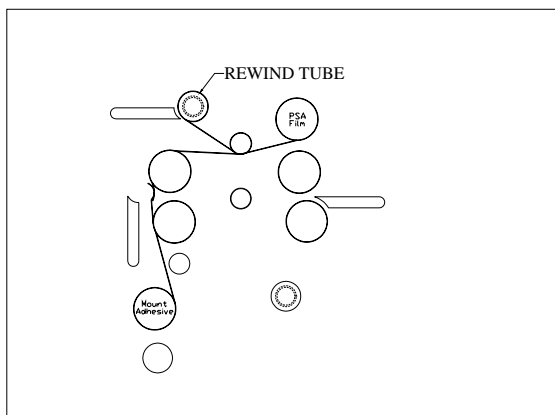

Figure 23
6. Pull the mount adhesive up towards the film draped over the upper roller (Fig. 23).